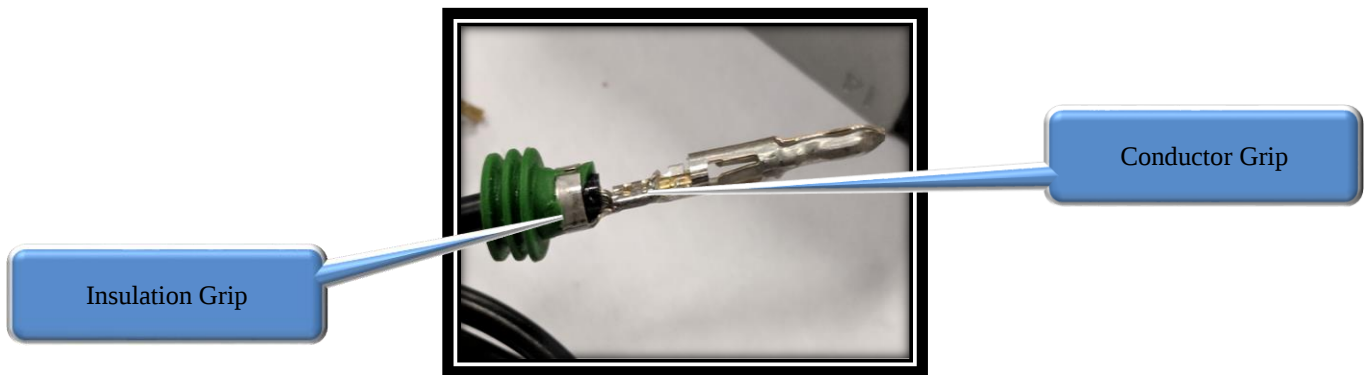

FIG 7.1
11. Insert 12010293 cable seal on to all wires during the crimping of 12124582 terminal pin on all wires. Inspect to ensure terminal is straight and not bent. Ensure the wire's conductors are crimped to the conductor grip of the terminal while the cable seal is crimped along with the wire's insulation grip. Refer to FIG. 7.1.